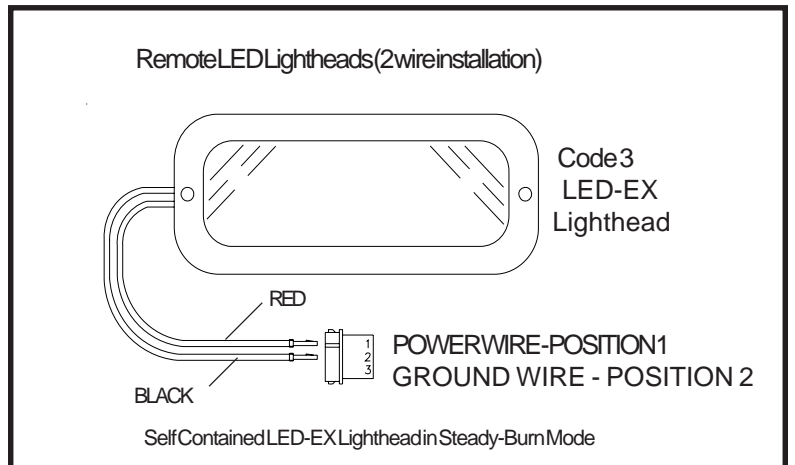

Figure 8
- d) Insert pins into AMP connector # 1-480303-0 as shown in figure 8.